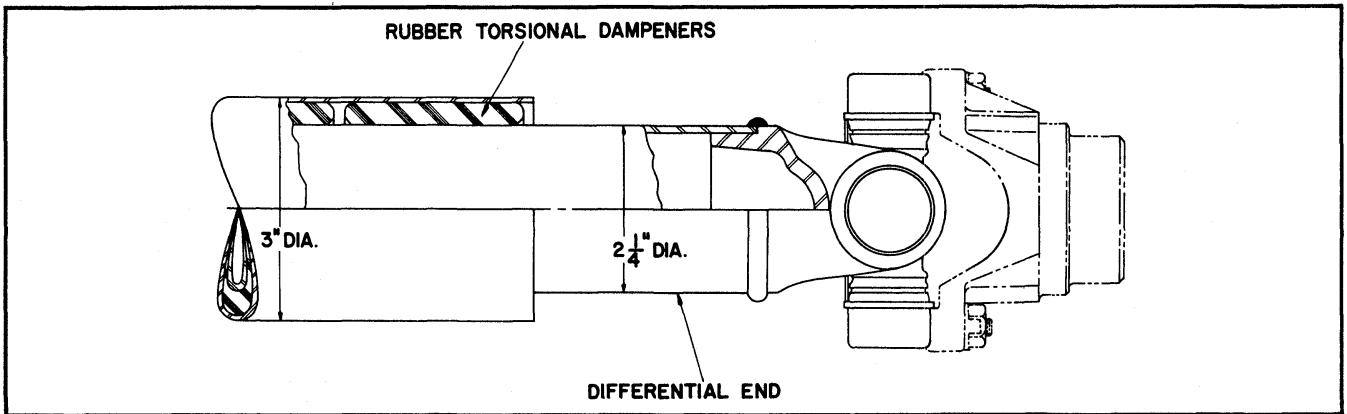

Fig. 4A-1 Insulated Propeller Shaft
2. Use a suitable rubber band to hold bearing onto journals if tie wire has been removed to prevent loss of needle bearings when rear joint is disconnected (Fig. 4A-3).